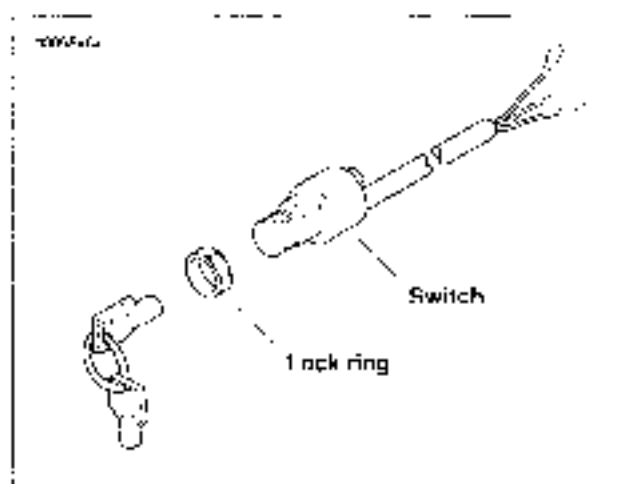

Figure 8-24. Ignition Switch: All But FXDWG
3. See Figure 8-24. Unscrew ignition/light lock ring. Push switch back through hole.